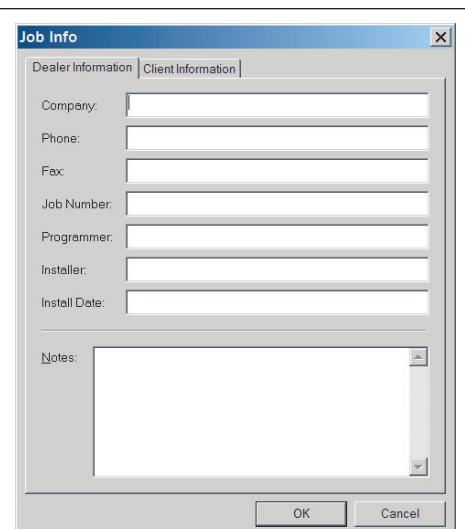

Figure 35:
- The DEALER tab (*Figure 35*) allows you to record information about the particular job, including system design notes, firmware upgrades, etc. This information is not transferred to the C4630 SE — it is saved only in the system program file in your computer.